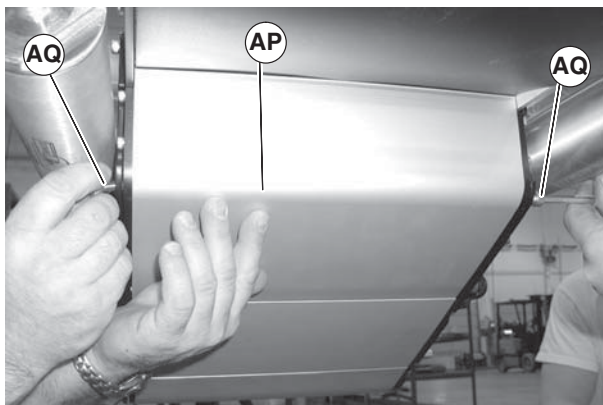

Figure 69
2. Temporarily support idler guard assembly (Figure 69, item AP). Remove screws (AQ).